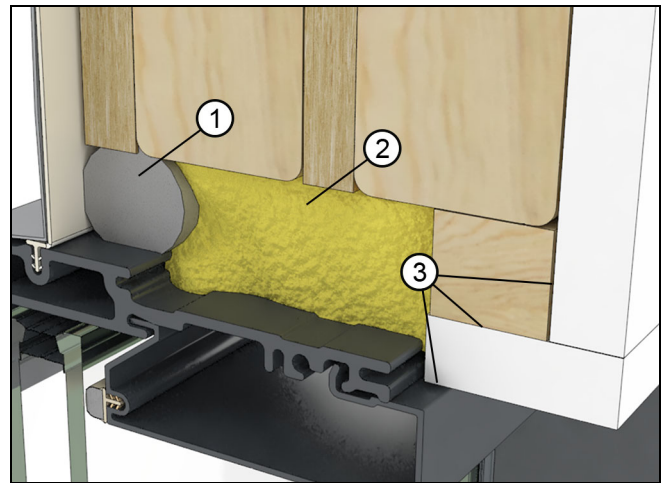

Figure 70
1. Apply insulation in the rough opening, against the backer rod installed earlier. See Figure 70.
2. Apply a continuous bead of sealant around the interior perimeter. Seal all joints where drywall returns to the window frame. See Figure 70.